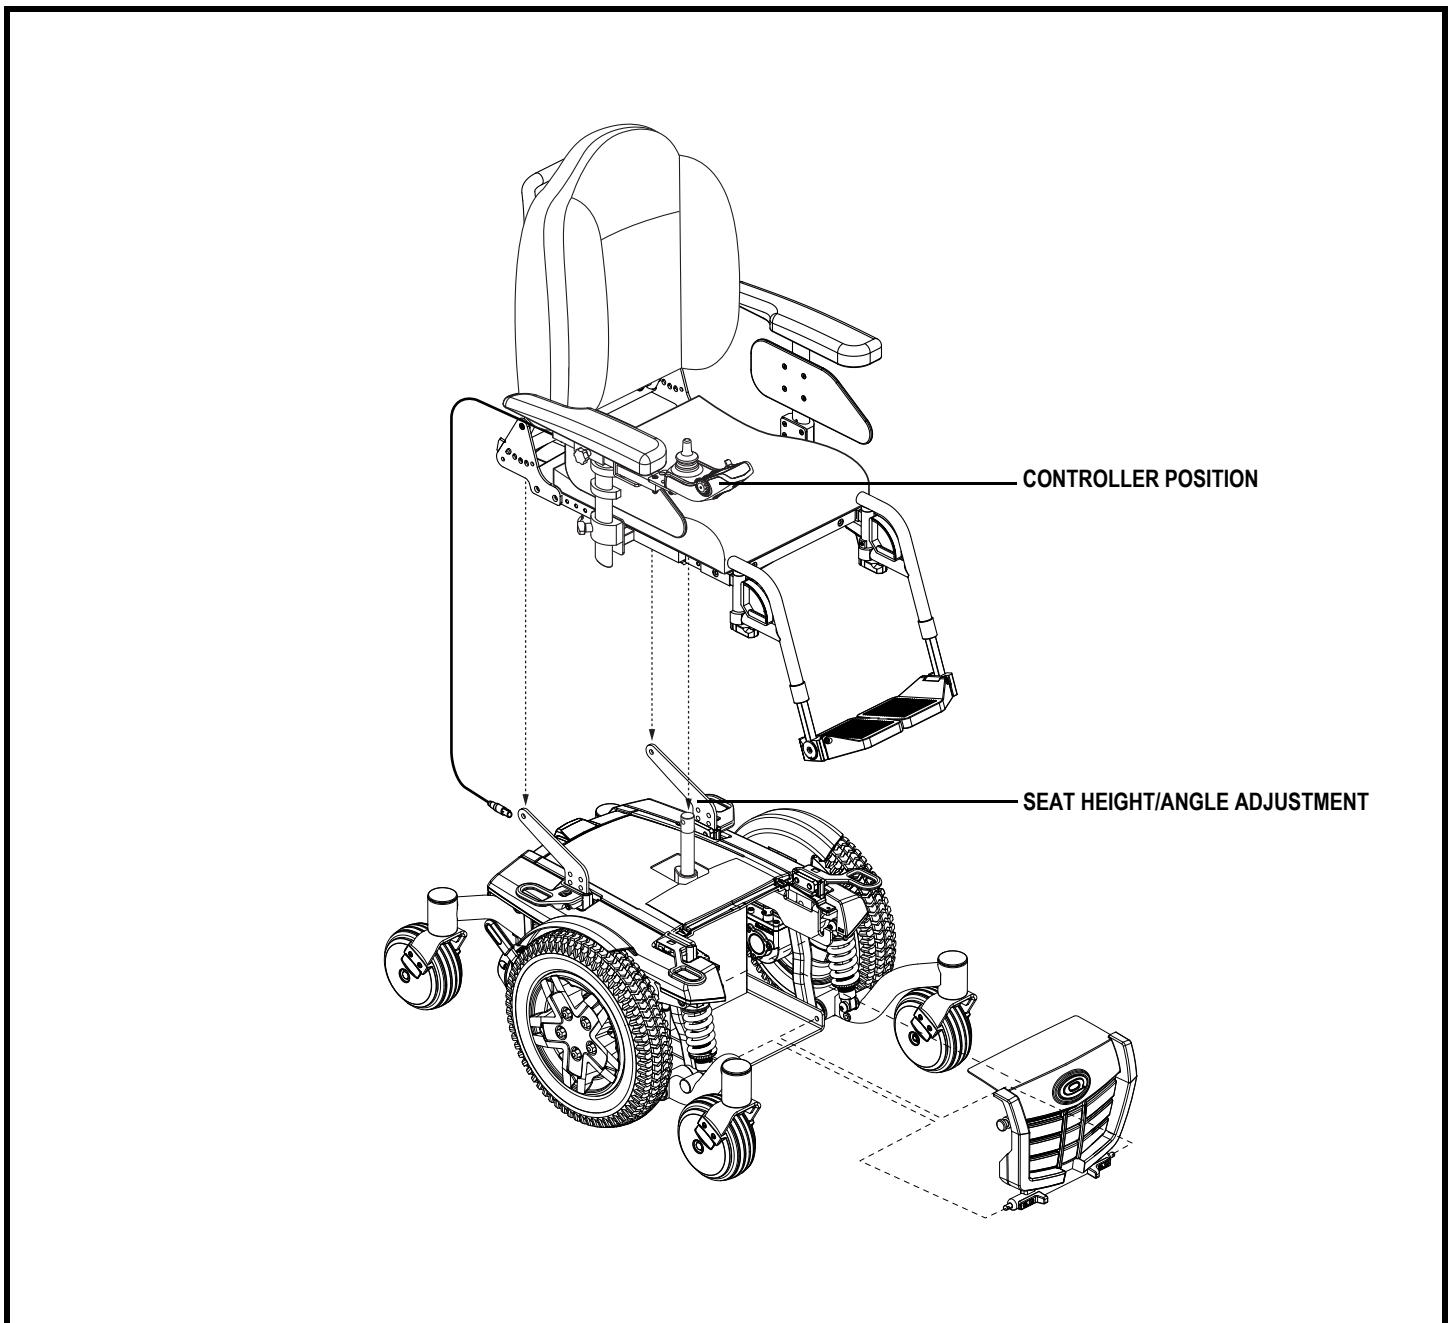

Figure 6. Q6 Edge Assembly View
Your power chair may require some assembly either before initial use or after transportation. It may also require disassembly to make some comfort adjustments. **Figure 6** details those parts of the power chair that are designed to be disassembled and assembled by an end user or by a qualified caregiver before using the product or making comfort adjustments.
3. Install the controller and route the harness to the back of the power base. See figure 6.